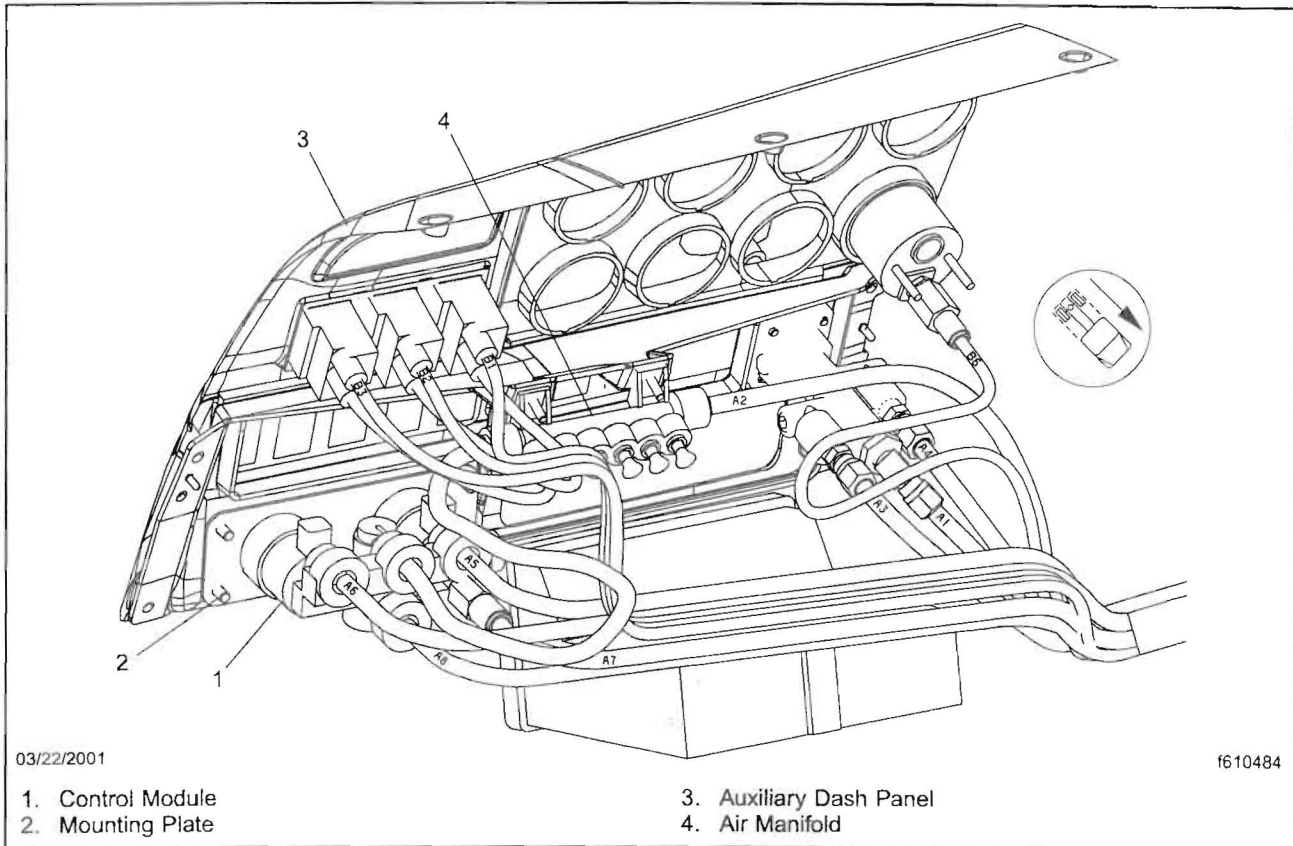

**Fig. 11, Auxiliary Dash Panel Screws**
2. Remove the screws from the auxiliary dash panel. See **Fig. 11**. Remove the auxiliary dash panel.